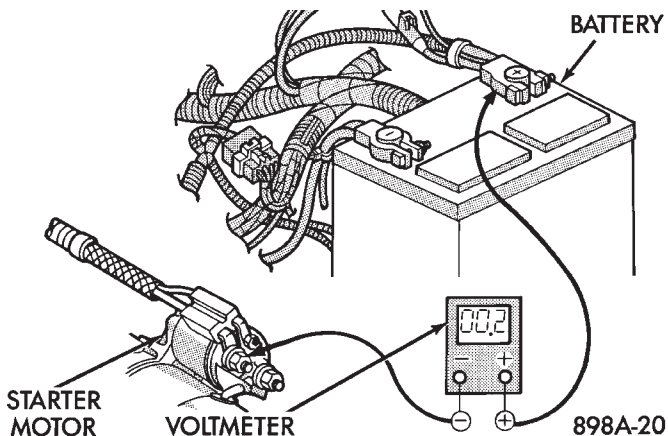

Fig. 13 Test Battery Positive Cable Resistance - Typical
(3) Connect the voltmeter to measure between the battery positive terminal post and the starter solenoid battery terminal stud (Fig. 13). Rotate and hold the ignition switch in the Start position. Observe the voltmeter. If the reading is above 0.2 volt, clean and tighten the battery cable connection at the solenoid. Repeat the test. If the reading is still above 0.2 volt, replace the faulty battery positive cable.